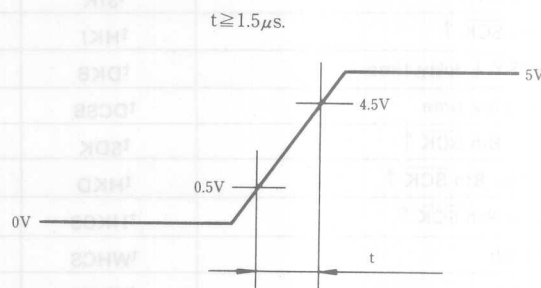

Fig. 7 Power supply voltage
- (1) Power supply voltage should be applied to LCD module as figure 7.
- (2) Input signals should not be applied to LCD module before power supply voltage is applied and reaches to specified voltage ($5V \pm 0.5V$).